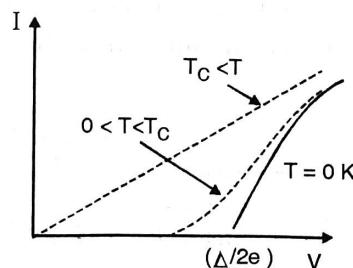

Fig.5.7.3 : Current voltage relationship at the junction with respective temperature
- Therefore, threshold voltage decreases. The current-voltage relations at different temperatures are recorded in the Fig. 5.7.3.